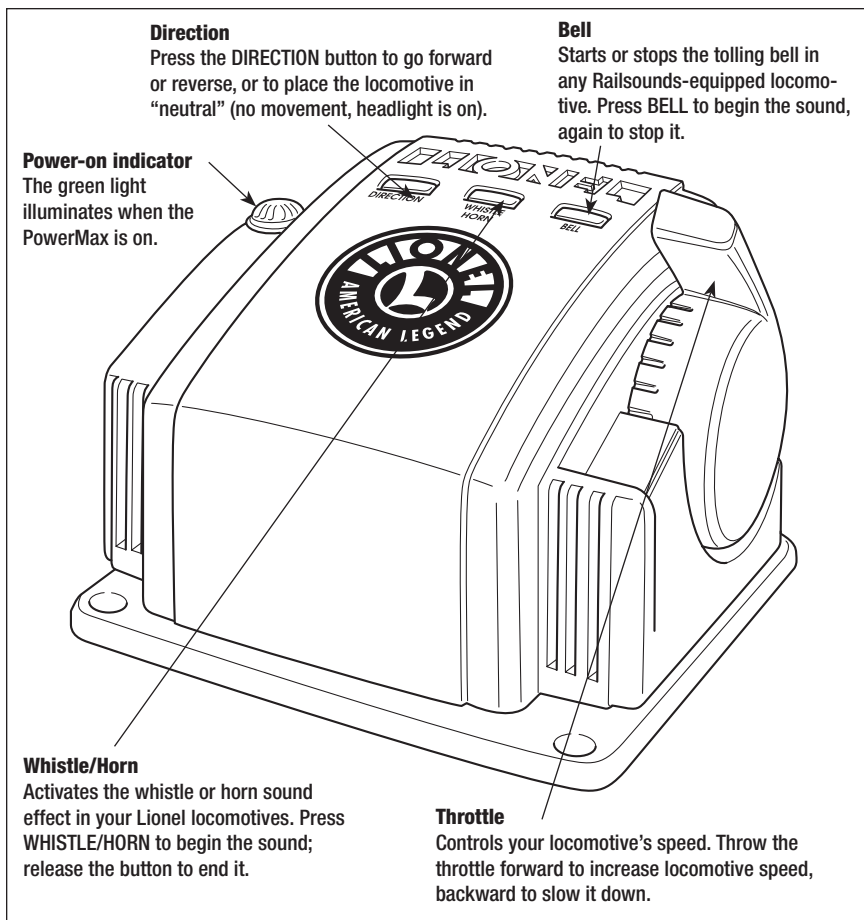

Figure 7. Transformer features
**R**efer to Figure 7 on page 12 for the location of the Transformer features listed in this section.